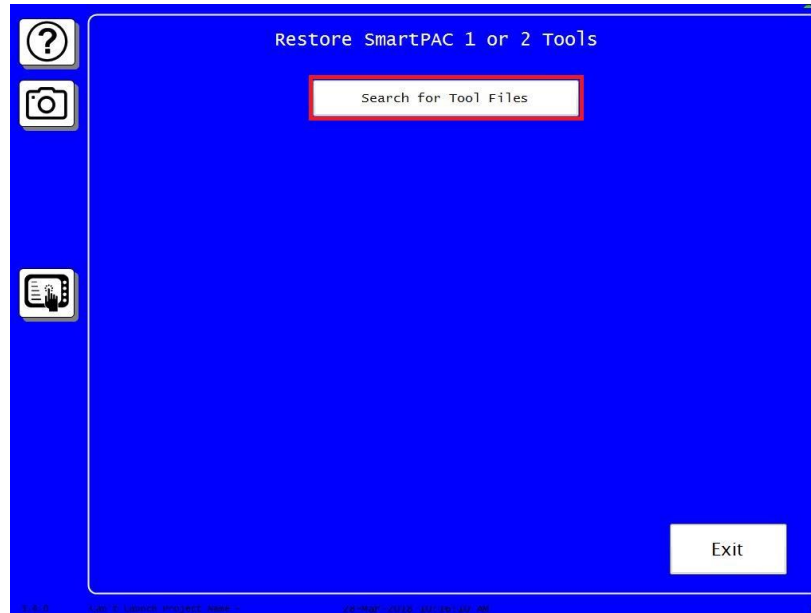

Figure 7 – Search for Tool Files button
8. Press the Search for Tool Files button (Figure 7 below)